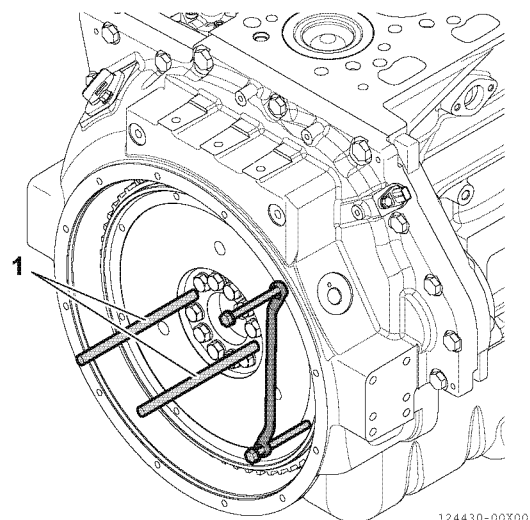

Fig.03-2
4. Attach 2 guide bars (1, Fig.03-2) to the 2 flywheel attaching bolt holes. Then, remove the remaining 10 flywheel attaching bolts, and remove the stopper.